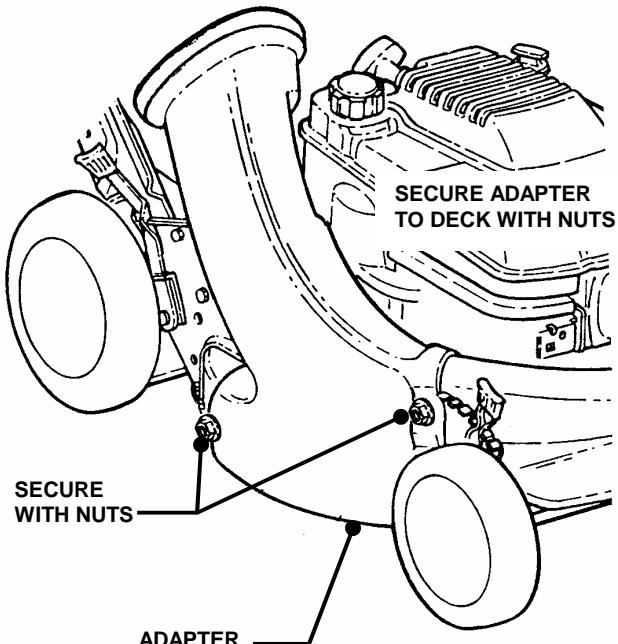

FIGURE 2.7
**STEP 1:** Install the grass bag adapter and secure to the side and top of the deck with the two nuts provided with the machine. Slot in front edge of adapter must be under nut located on top of deck. See Figure 2.7.